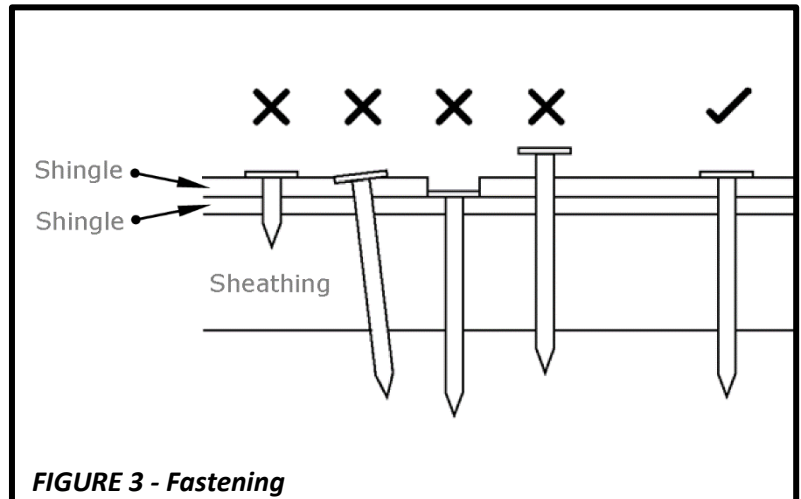

FIGURE 3 - Fastening
- All nails must be driven straight with heads flush to the shingle surface, never cutting into the shingle. See **Figure 3**. Fasteners must not be exposed or visible on the finished roof. Staples are not an approved fastening method.